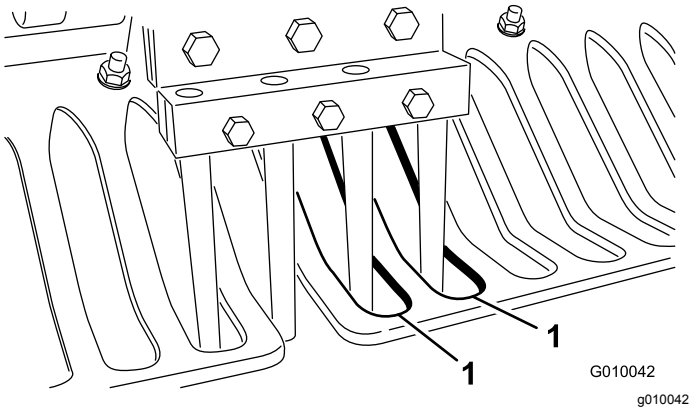

Figure 27
- Check that the tines line up with the center of the gaps in the turf guards (Figure 27). Adjust the turf guards as required and tighten the nuts.